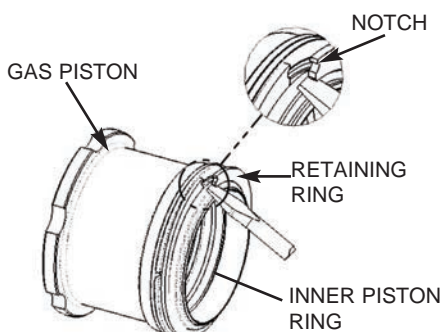

Figure 11C
For a gas piston assembly fitted with two outer piston rings and a retaining ring as shown in Figure 11C, follow the instructions below for gas piston disassembly.
1. Use a small flat head screwdriver to remove the retaining ring (Figure 11C). Engage the screwdriver blade in the retaining ring notch to pry the ring out of the groove.